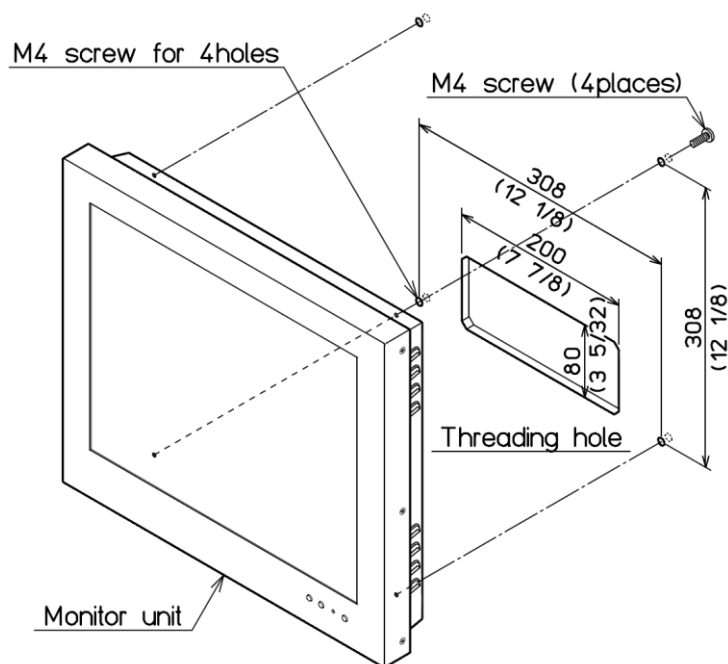

**Fig. 1.8 Maintenance space**
- (1) Decide the location to install the 17 inch LCD Monitor and keep the space for the maintenance works as shown in Fig. 1.8.
- (2) Mark the position where installation bracket are installed. (See Fig. 1.8)
- (3) Confirm that the installation bracket matches the marked position. If not matched, correct the marking position.
- (4) Install the installation bracket in the installing location (screw hole) and fix it with 5 tapping screws (5mm) (M5 or pan-head). (Prepare 5 mm screws suitable for thickness of installing location.)